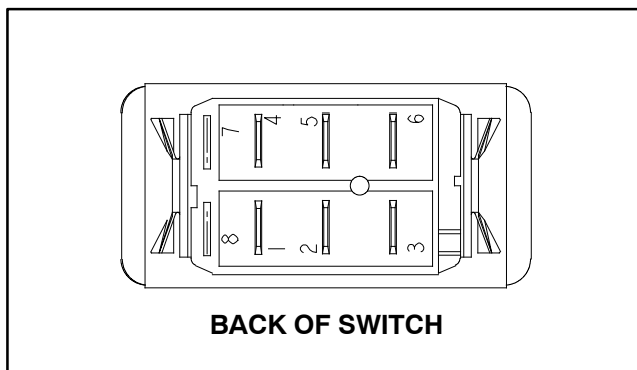

Figure 55
5. The switch terminals are marked as shown in Figure 55. The circuit logic of the flasher switch is shown in the chart below. With the use of a multimeter (ohms setting), the switch functions may be tested to determine whether continuity exists between the various terminals for each position. Verify continuity between switch terminals. Replace flasher switch if testing identifies a faulty switch.